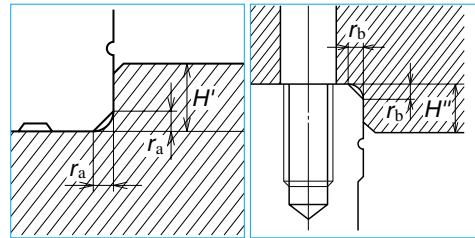

Fig. II-9-10 Shoulder for the rail datum face **Fig. II-9-11 Shoulder for the ball side datum face**
(1) Shoulder height of the mounting face of the machine base and corner radius r
- Fig. II-9-10, II-9-11, and Table II-9-9 show shoulder height of the mounting face of the machine base and the size of corner r. These figures are relevant when the linear guide is pressed to the shoulder of the bed or table (the raised section from where the mounting face begins), and horizontally secured to it.
(2) Tightening torque of the bolt